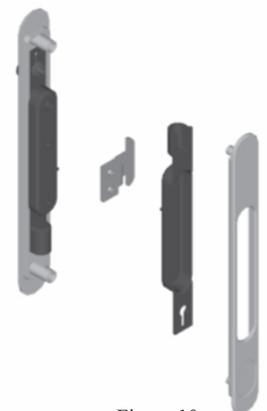

Figure 10
- I. Insert bearing pin into bushing, then screw bottom cap onto opposite end of housing. Make sure the bearing pin is properly seated in the bottom end cap and fasten with two (2) 3/8" flat head screws provided.
- K. Move the cushions to their respective positions on the housing face. The housing end caps are equipped with posts, notched to set the cushion height. (Figure 9.) While the cushions will remain in place in normal operation, it is recommended to apply a couple of drops of cyanoacrylate adhesive between the cushion and the outside of the housing to prevent accidental dislodgement. The handle set can be reversed if necessary . The lock button must be at the top of the handle set for proper operation. To disassemble the handle, remove the two handle screws. Remove the exterior handle. Carefully separate the inside nylon slide by gently tugging until it separates from the remaining nylon slide. Care must be taken during this procedure not to dislodge the handle spring, or the spring could fall into the drawbar cavity. Remove the latch from the inside nylon handle, and remove the interior handle assembly from the drawbar. Reverse this process to reassemble the handle. (Figure 10.)slide. Care must be taken during this procedure not to dislodge the handle spring, or the spring could fall into the drawbar cavity. Remove the latch from the inside nylon handle, and remove the interior handle assembly from the drawbar. Reverse this process to reassemble the handle. (Figure 10.)